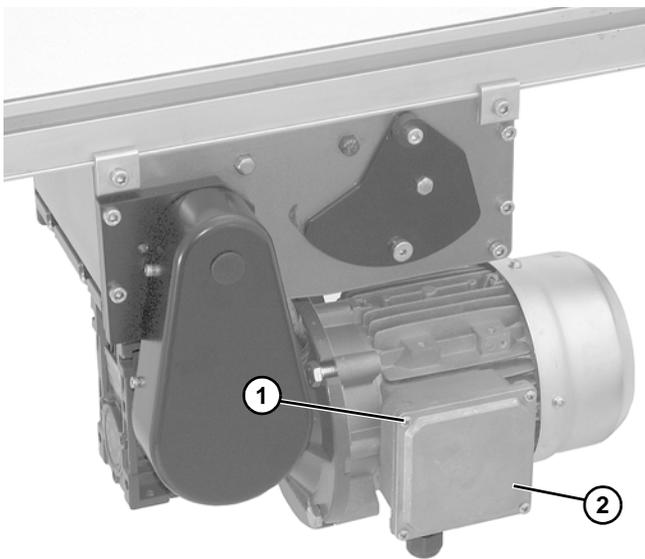

Figure 26
- a. Loosen terminal box screws (Figure 26, item 1) and remove cover (Figure 26, item 2).